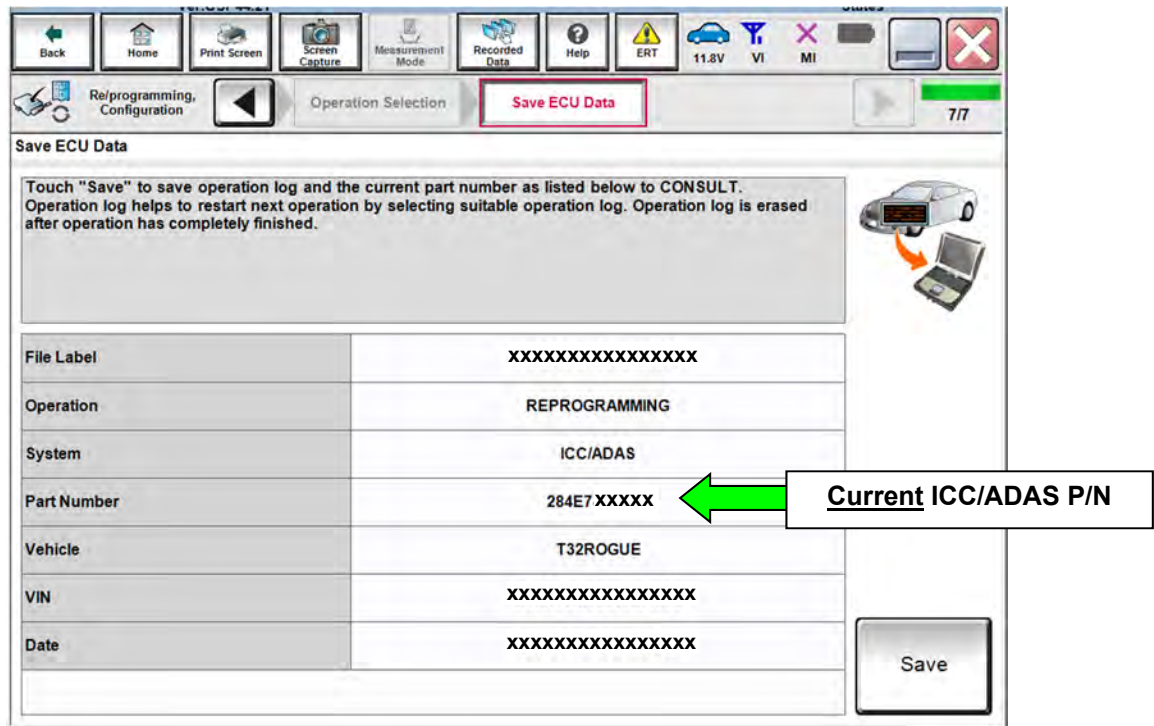

Figure 27
45. When you get to the screen shown in Figure 27, confirm that a reprogram is available as follows.